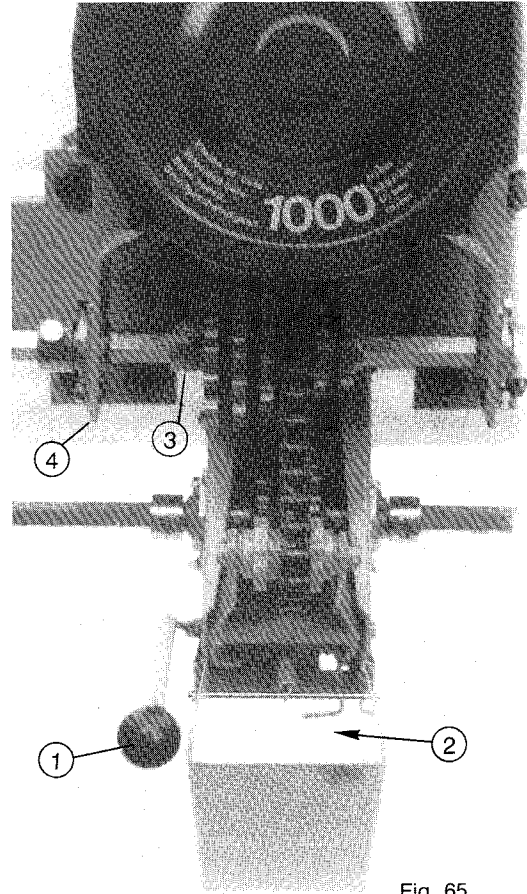

Fig. 65
- Normal assembly: (fig. 65) for planters with an even number of rows and inter-row spacing of 18" (45 cm) or more.